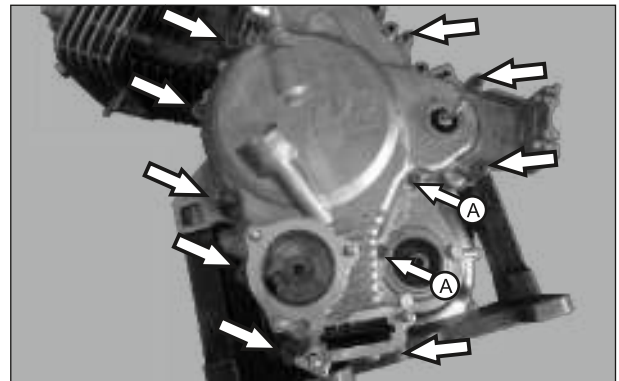

Fig. 3.164
- Fasten the clutch cover with 9 nos. Hexagonal flange bolt (M6x50). and 2 nos. Hexagonal flange bolt (M6x122) (A). ( Fig. 3.164)